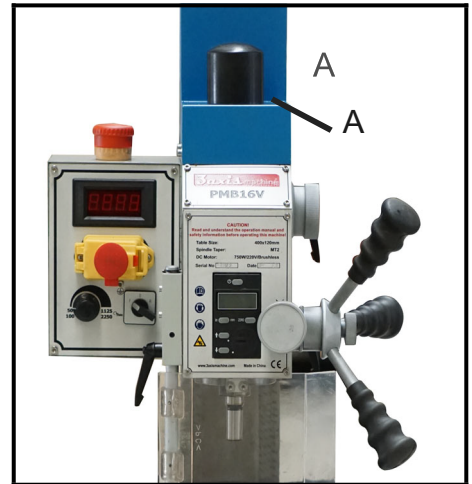

Fig. 14
2. Remove the cover of drawbar onto the motor cover (A, Fig. 14).